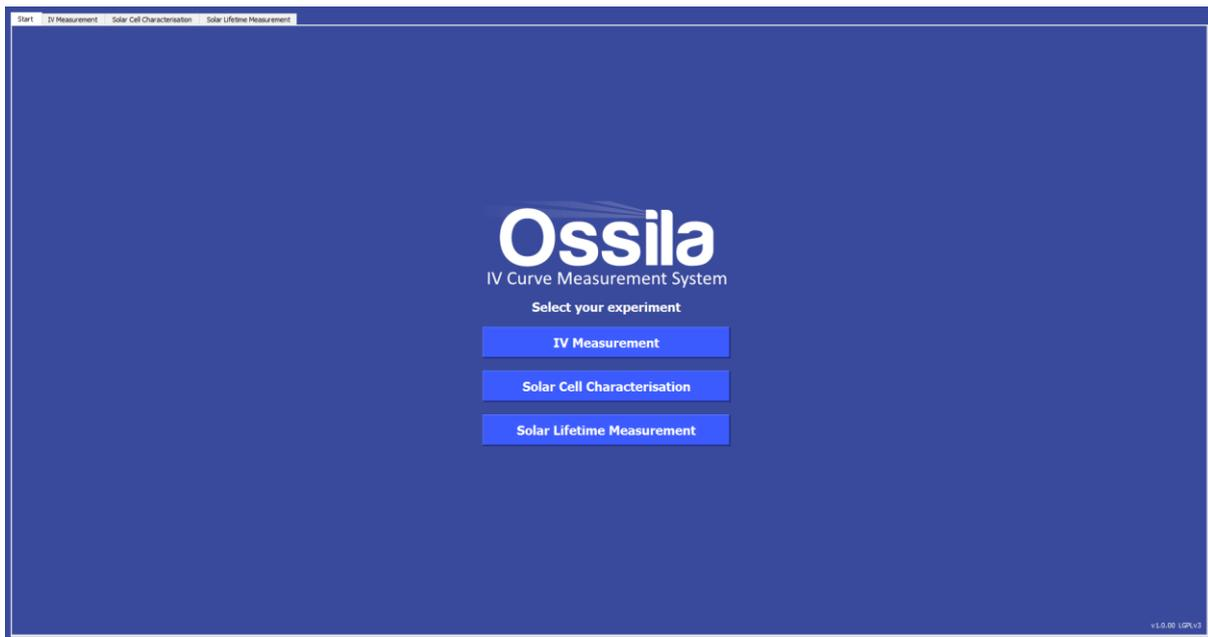

Figure 3.1. Ossila IV Software start screen.
2. Start the program 'Ossila IV' and the window shown in Figure 3.1 will open.